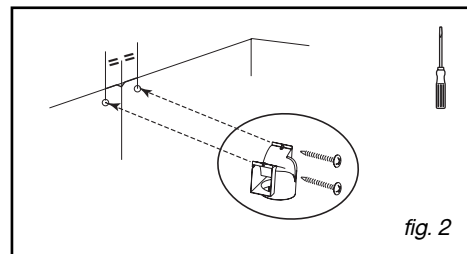

fig. 2
– Hang the suction hood on the two screws (fig. 2).
– Mount the back-flow valve near the motor outlet (fig. 2). This back-flow valve makes it possible to block the entry of air from the outside.
- Using the two screws (fig. 2), attach the plastic smoke deflector against the wall, flush with the ceiling for support. Be careful to centre the deflector in relation to the vertical line drawn on the wall (fig. 2).
- Remove the filter cartridge (fig. 2).